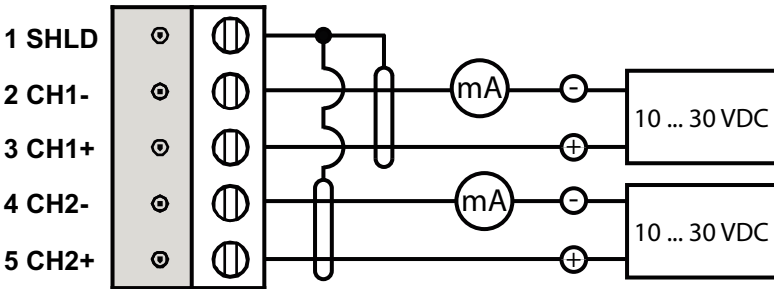

Figure 12 Isolated Current Loop Wiring
1) Terminal numbers 1 ... 5 in the first column of the wiring table refer to Figure 12 \(page 22\)
- 3. Connect the wires as instructed in Figure 12 \(page 22\) and Table 4 \(page 22\). Suitable wire size is 0.5 ... 1.5 mm².